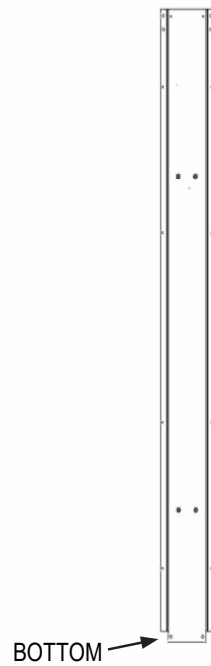

Figure 2A
2. Once the existing grilles have been removed, replace the posts, one-by-one, with the new ones provided in the carton. One-by-one meaning, taking the old one off and immediately replacing it with the new one before removing another one. This will keep the weight of the top panel supported. See figure two for correct riv nut orientation when installing the posts. Please reuse the screws that were removed to replace the old posts with the new posts. The bottom of the posts have a notch cut out of them. See Figure 2a for more detail.